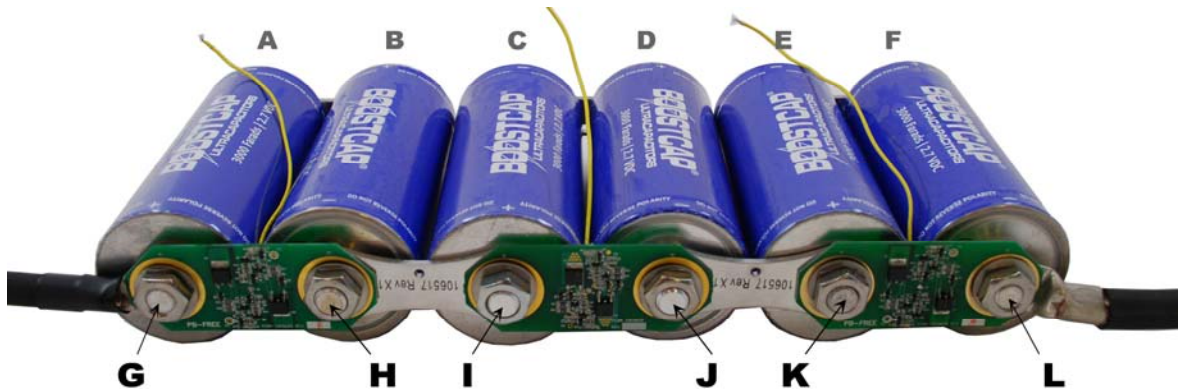
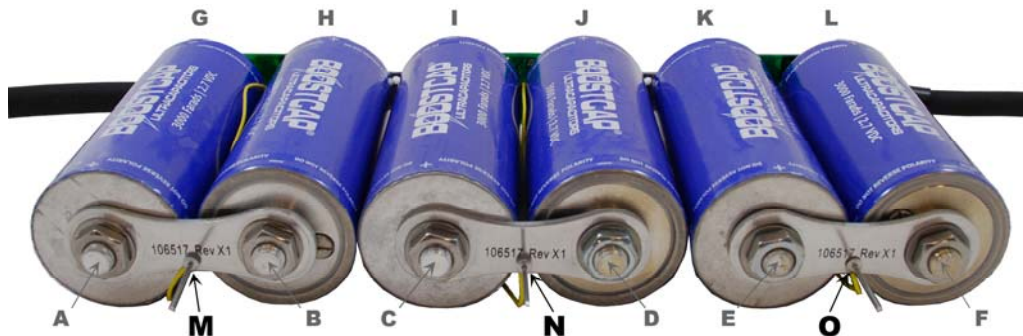

Figure 11
Figure 12
- 3.2.10 Thread a nut onto each threaded terminals and hand tighten. (G – L, Figure 11)
- 3.2.11 The 22 AWG wire attached to the voltage management board must be riveted in place with the provided rivet to the buss bar that spans **the same two cells as the printed circuit board** (M, N and O, Figure 12). Those two cells are protected by that one board. E.g.: the wire on the voltage management board spanning terminals G and H in Figure 11 is connected to the rivet on the buss bar spanning terminals A and B.